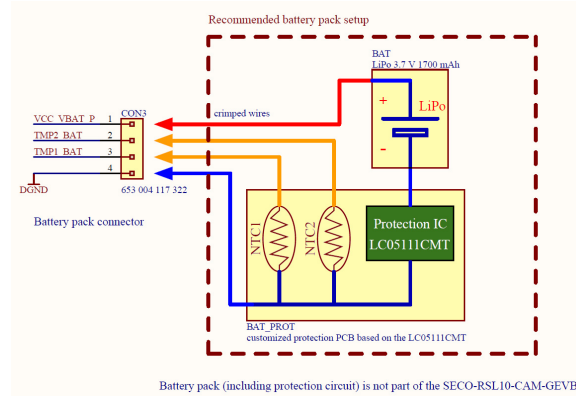

Figure 10. High-level Principal Schematic of Rechargeable Battery Connection and Protection Circuitry Towards CON3
2. The protection circuit consists of two NTC temperature sensors that monitor battery temperature. NTC1 connects via TMP1_BAT header towards battery charger FAN54120, and NTC2 applies for fuel gauge LC709204. The connection of battery pack is shown in Figure 10.